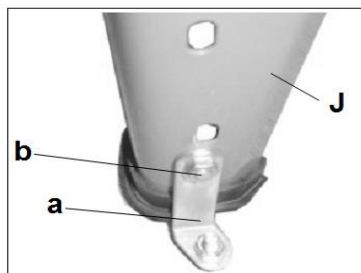

Fig.5
Before use, the saw must be screwed securely to the metal angle bracket supplied. The metal bracket (a) must be secured to the feet (J) with the screw (b), as shown in Fig.5